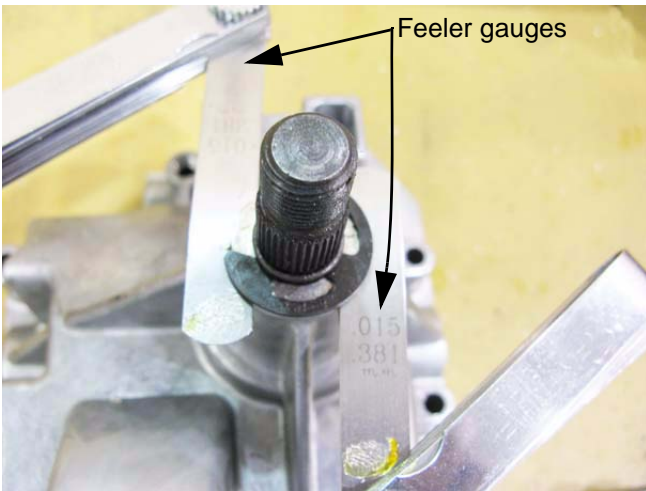

Figure 5.71
15. Inspect the pinion gear and input shaft assembly. See Figure 5.71.